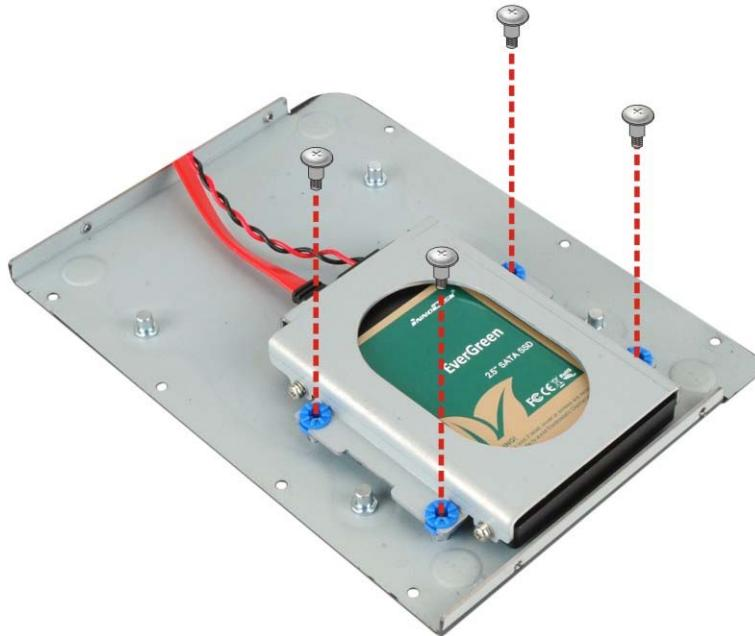

Figure 6-5: HDD Bracket Retention Screw Removal
Step 4: Remove the four HDD bracket retention screws (**Figure 6-5**) to remove the HDD bracket and the HDD.